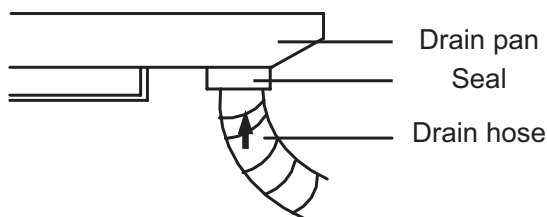

Figure 3-1-33
- (1). For determining the position of the drain hose, perform the following procedures.
- (2). Insert the drain pipe to the drain outlet of the unit and then tighten the clamp securely with tape. (Figure 3-1-33)
- (3). Connect the extension drain pipe to the drain pipe and then tighten the clamp with tape.